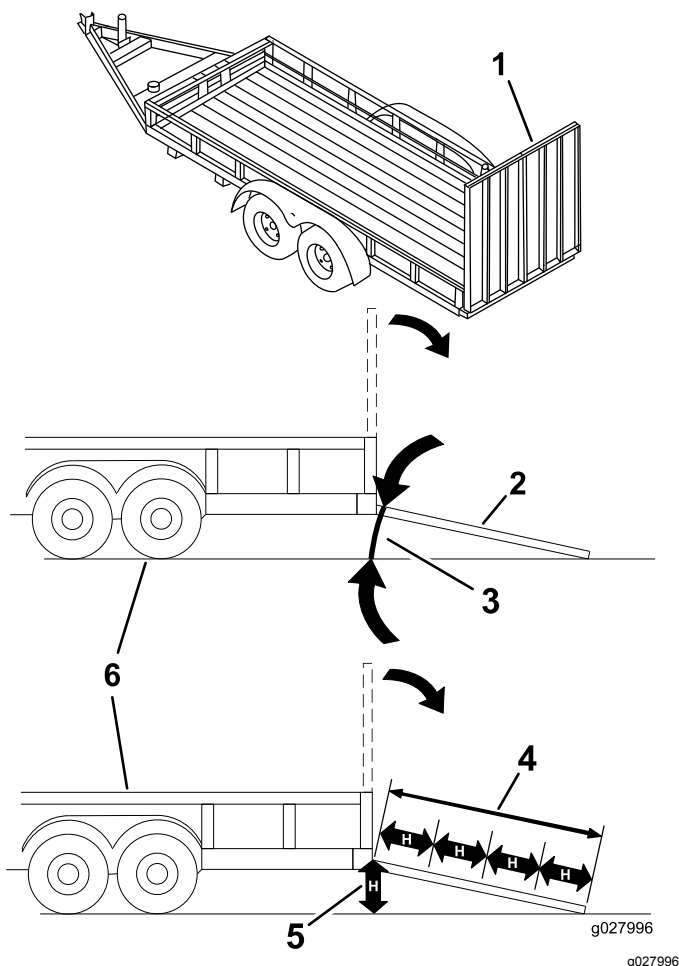

Figure 34
Loading a machine onto a trailer or truck increases the possibility of tip-over and could cause serious injury or death (Figure 34).
3. Lower the ramp, ensuring that the angle between the ramp and the ground does not exceed 15 degrees (Figure 34).
1. Lower the ramp, ensuring that the angle between the ramp and the ground does not exceed 15 degrees (Figure 34).